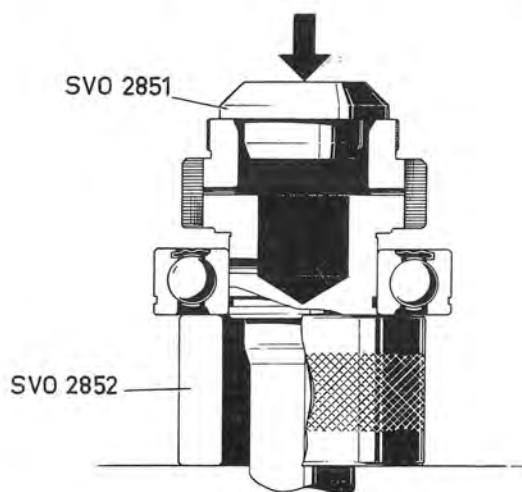

Fig. 4-29. Installing ball bearing on input shaft
1. Press the sealing rings in the front and rear covers with drift 2851+1801 and 2412 respectively. Press the ball bearing on the input shaft with the help of the cushioning ring 2852 and drift 2851, see Fig. 4-29.